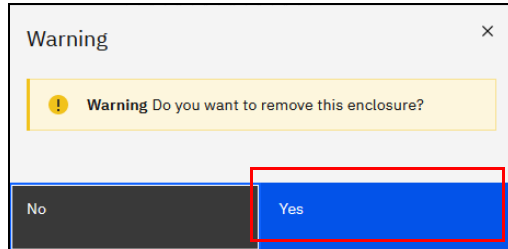

Figure 4-118 Confirming the removal
2. The system prompts you to remove the enclosure. All disk drives in the removed enclosure must be in the *Unused* state. Otherwise, the removal process fails (see Figure 4-118 on page 235).